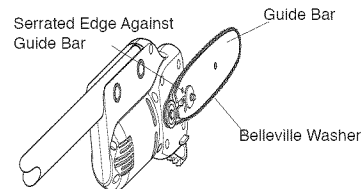

Figure 3 - Belleville Washer Assembly
5. Place Belleville washer, sprocket cover, and guide bar nut onto Pole Saw. **IMPORTANT:** Make sure serrated edge of the Belleville washer is positioned as shown in Figure 3. The serrated edge must be in contact with the guide bar. **IMPORTANT:** Tighten guide bar nut finger tight only.